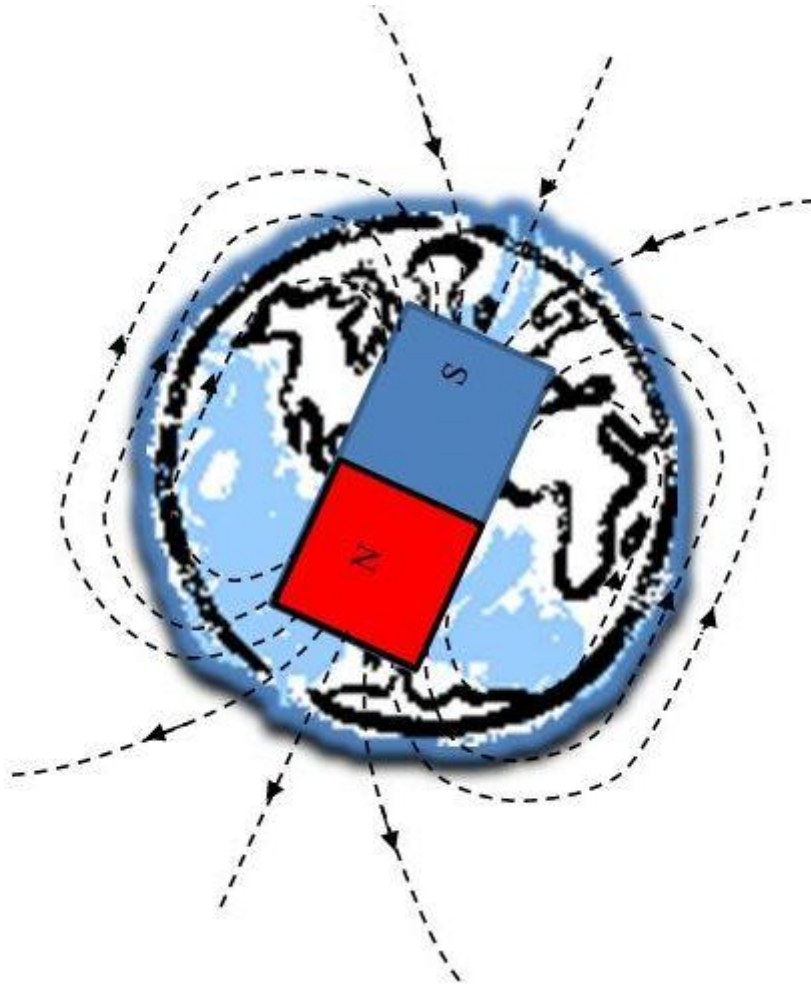

Figure 4 The Earth's magnetic field
- The Earth has a magnetic field like a bar magnet. Notice that the S-pole is under the North geographic pole. Be careful not to be confused by this (*Figure 4*).